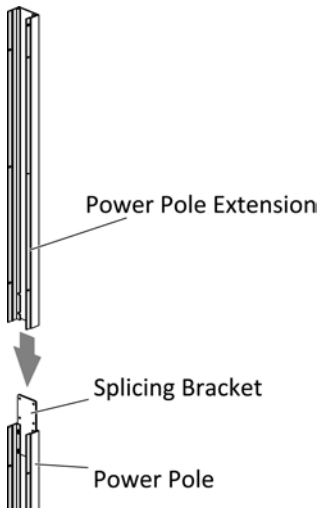

Figure 4
7. Insert splicing bracket with power pole into the power pole extension, (Figure 4).